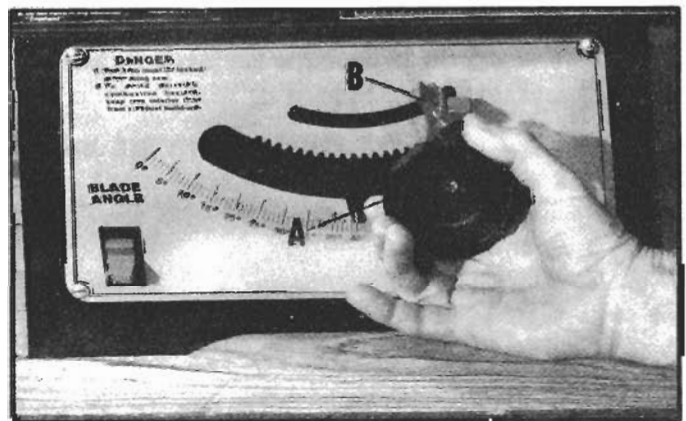
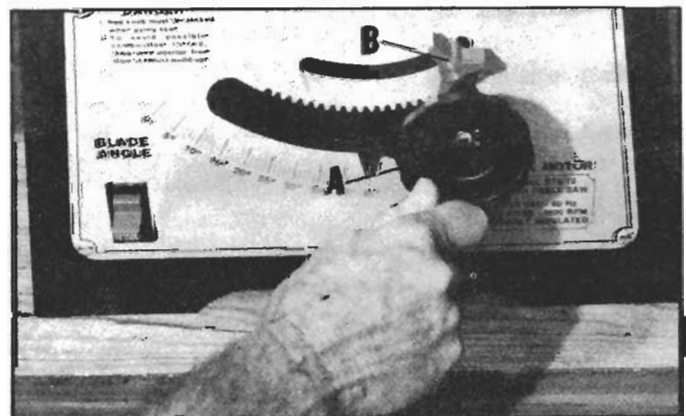

Fig. 35
Fig. 36
RAPID BLADE TILTING — Loosen blade tilting lock knob (B) Fig. 35, move the handwheel assembly to the desired angle and tighten lock knob (B).
FINE ADJUSTMENT BLADE TILTING — Loosen blade tilting lock knob (B) Fig. 36, push in handwheel (A) and at the same time turn the handwheel (A) to tilt the saw blade. When the saw blade is at the desired angle, tighten lock knob (B).
IMPORTANT: BLADE TILTING LOCK KNOB (B) FIG. 35 AND FIG. 36 MUST BE LOCKED DURING ALL CUTTING OPERATIONS.